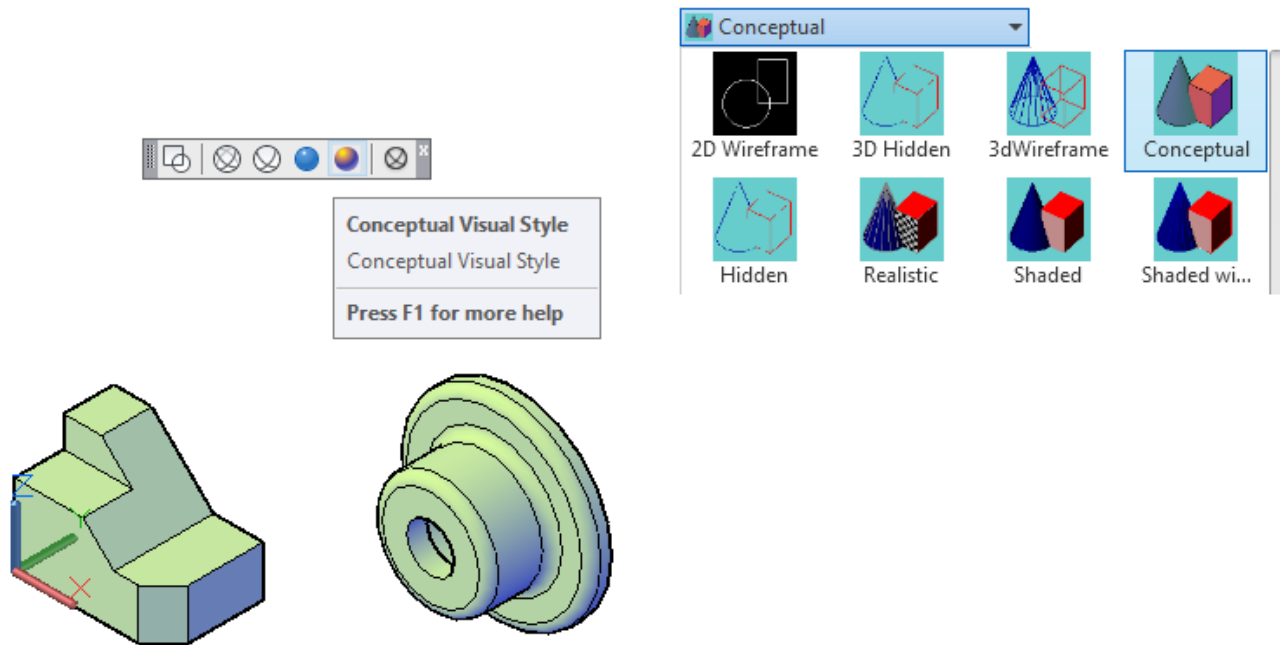

Figure Step 12
Step 12 Click the Conceptual visual style icon and note how when the current visual style is Conceptual, the appearance of the solid model is more of an artistic look. (Figure Step 12)